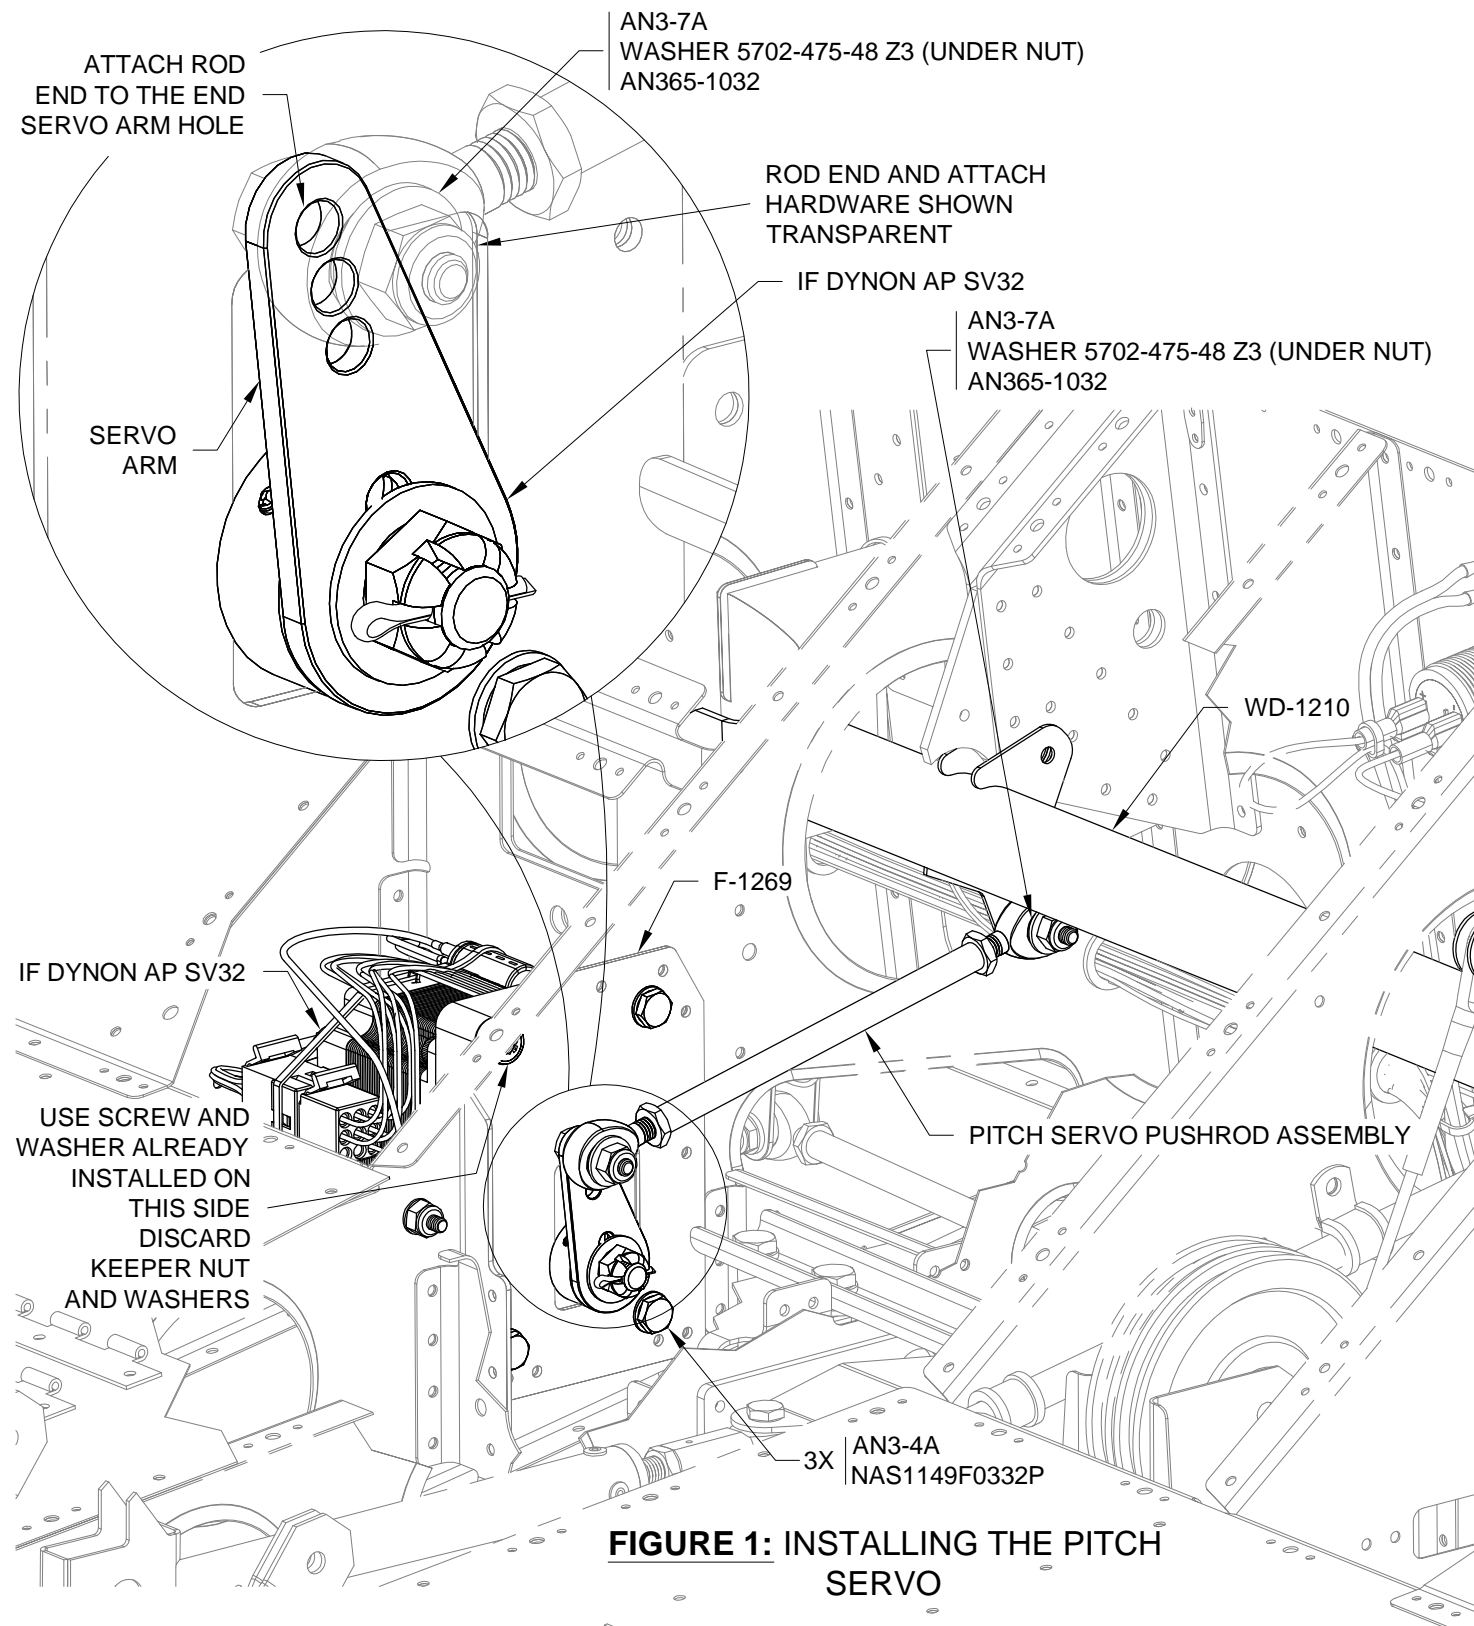

FIGURE 1: INSTALLING THE PITCH SERVO
Step 2: Attach the autopilot servo to the F-1215-R Seat Rib and F-1269 Servo Doubler using the hardware called out in Figure 1 and Loctite 242 or equivalent medium thread locker.
Step 3: Connect the Pitch Servo Pushrod Assembly to the tab on the WD-1210 Control Column and the IF DYNON AP SV32 Autopilot Servo arm. See Figure 1.